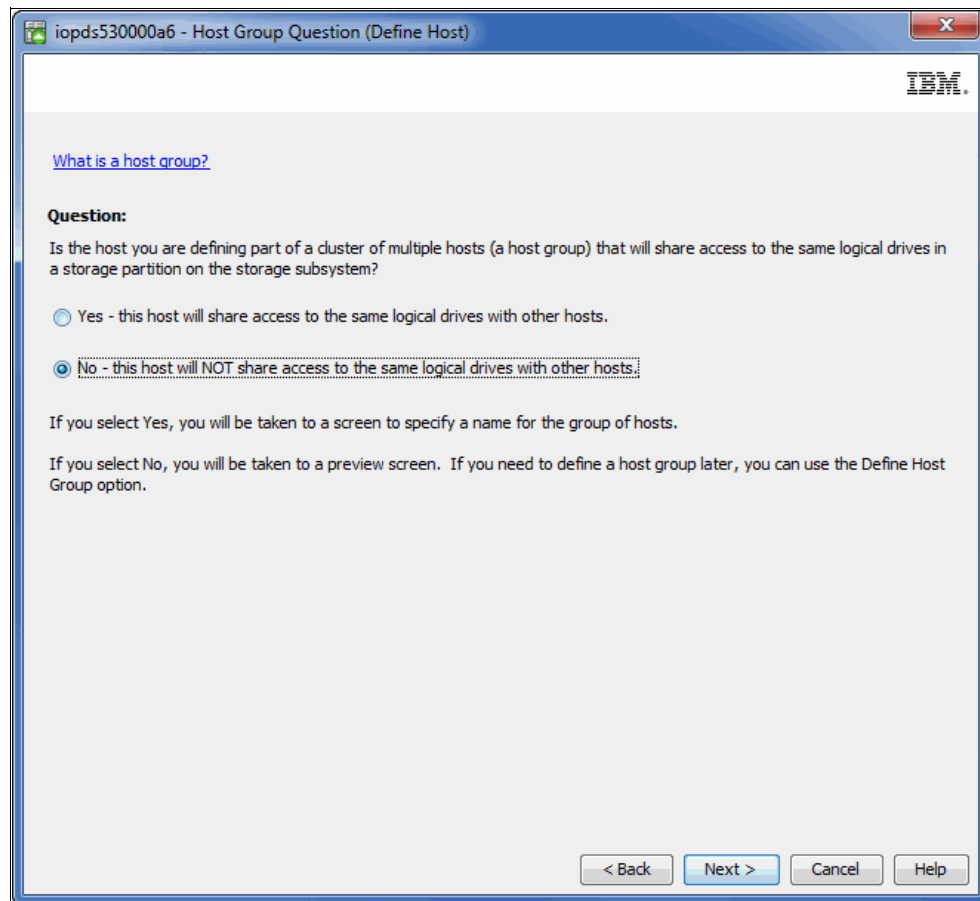

Figure 2-66 Shared access to the same logical drive
7. You are asked if this host will be part of a cluster, and if the host is going to share access. We select **No** because at this time, our installation will not share access, as shown in Figure 2-66.